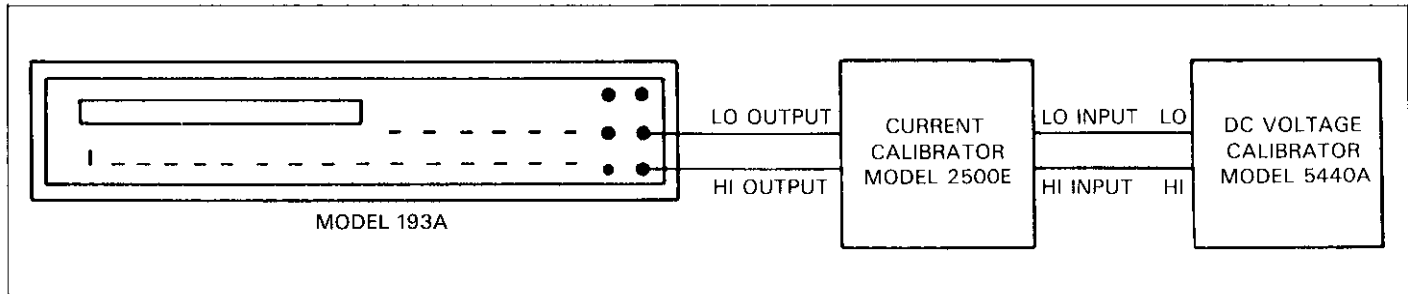

Figure 6-9. DC Current Calibration Configuration
2. Connect the DC current calibrator to the instrument as shown in Figure 6-9.